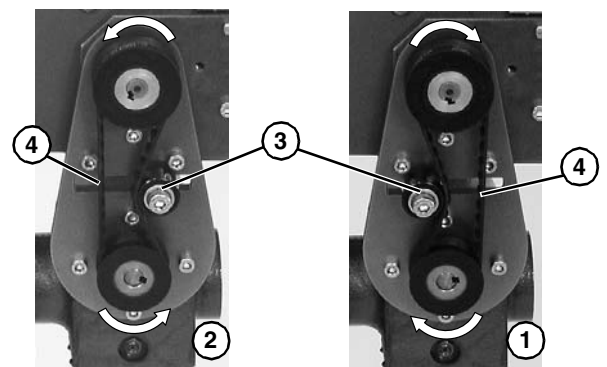

Figure 9
- Depending on direction of conveyor belt travel (1 or 2 of **Figure 9**), position belt tensioner (**Figure 9, item 3**) as shown. Tension belt to obtain 0.125" (3 mm) deflection for 1.0 lb (456 grams) of force at belt midpoint (**Figure 9, item 4**). Tighten tensioner screw to 103 in-lb (12 Nm).